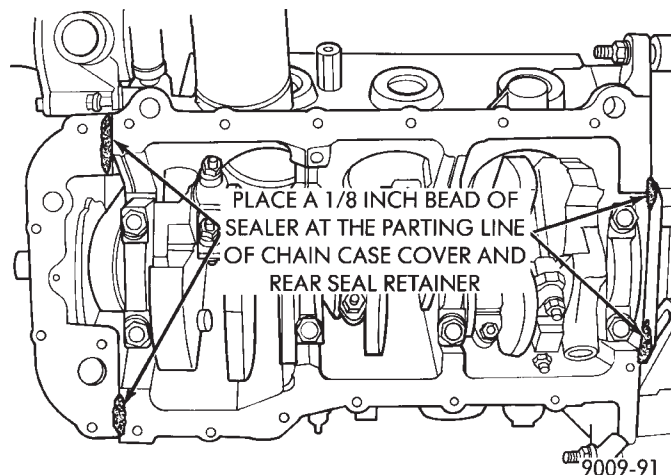

Fig. 48 Oil Pan Sealing
(1) Apply a 1/8 inch bead of Mopar Silicone Rubber Adhesive Sealant or equivalent, at the parting line of the chain case cover and the rear seal retainer (Fig. 48).